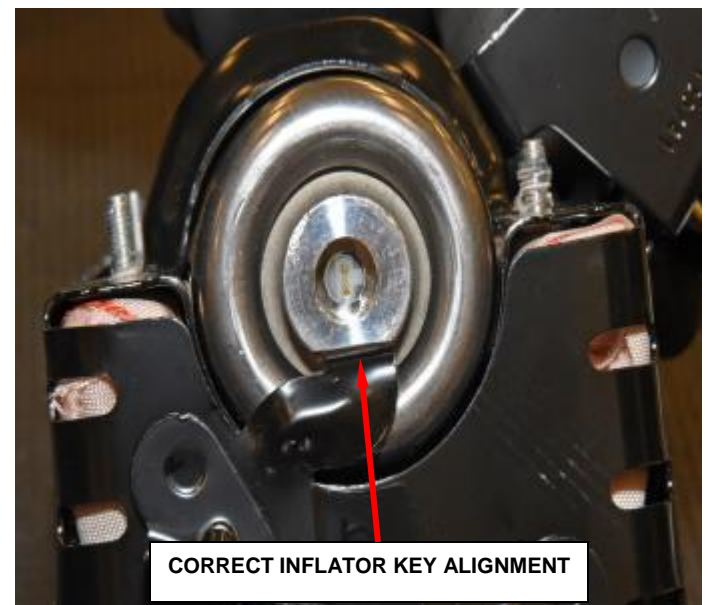

Figure 72 – Check for Inflator Key Alignment
q. Ensure that the inflator’s key is still lined up with the housing’s key (Figure 72).